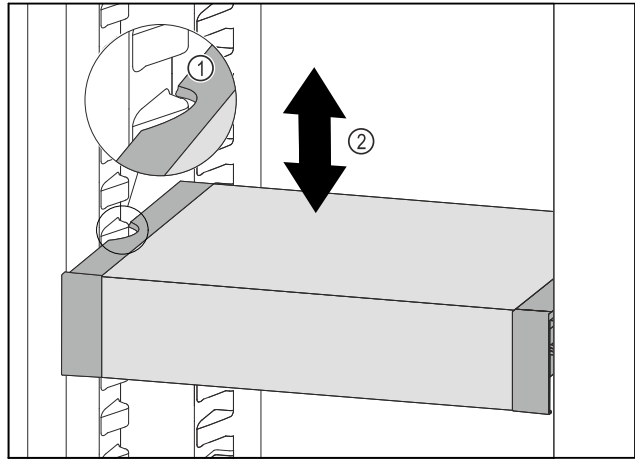

Fig. 75
- ▶ Pull VarioSafe forwards until the recesses in the side of the VarioSafe are at the level of the support rib in the refrigerator compartment. Fig. 75 (1)
- ▶ Move VarioSafe up or down in the refrigerator compartment until the desired height is reached. Fig. 75 (2)